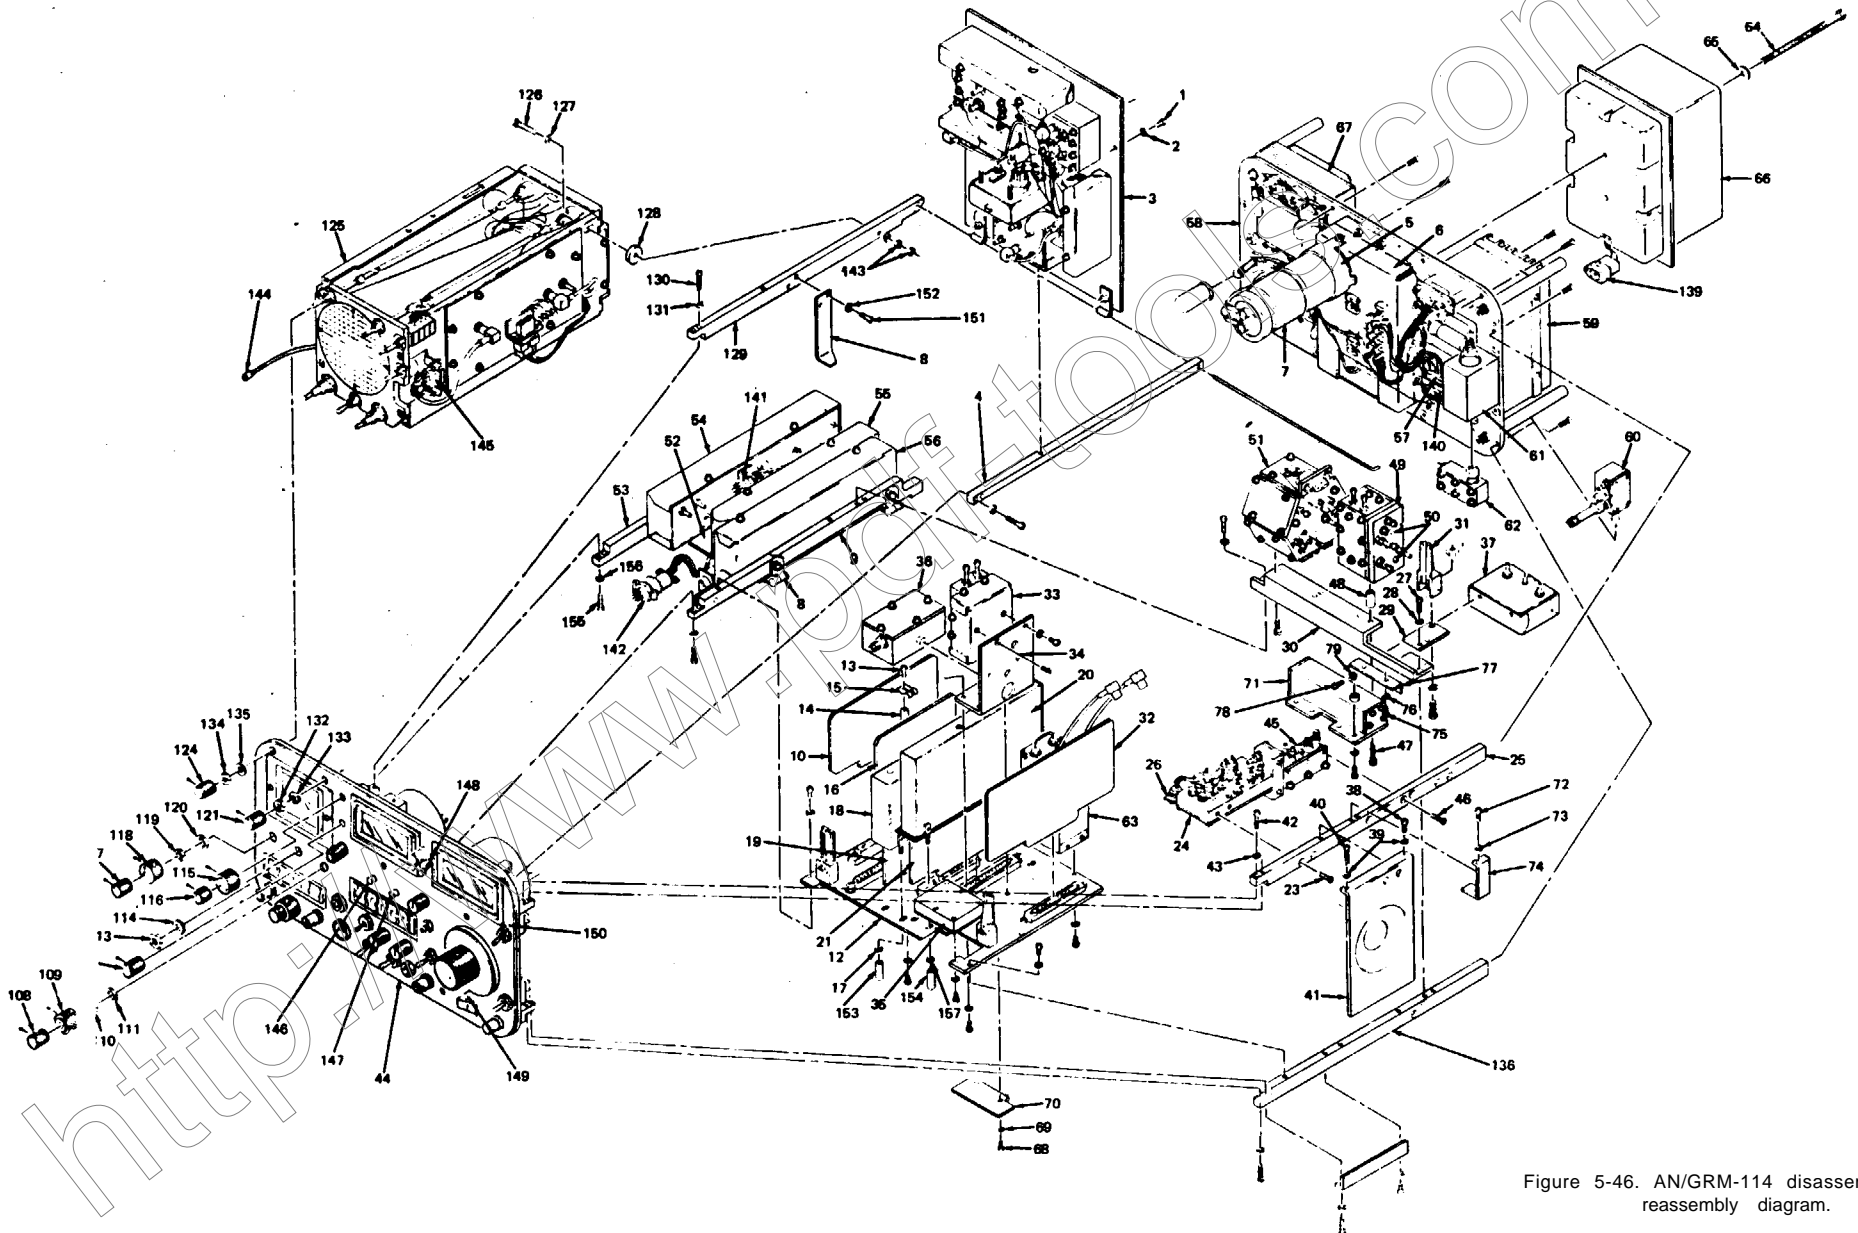
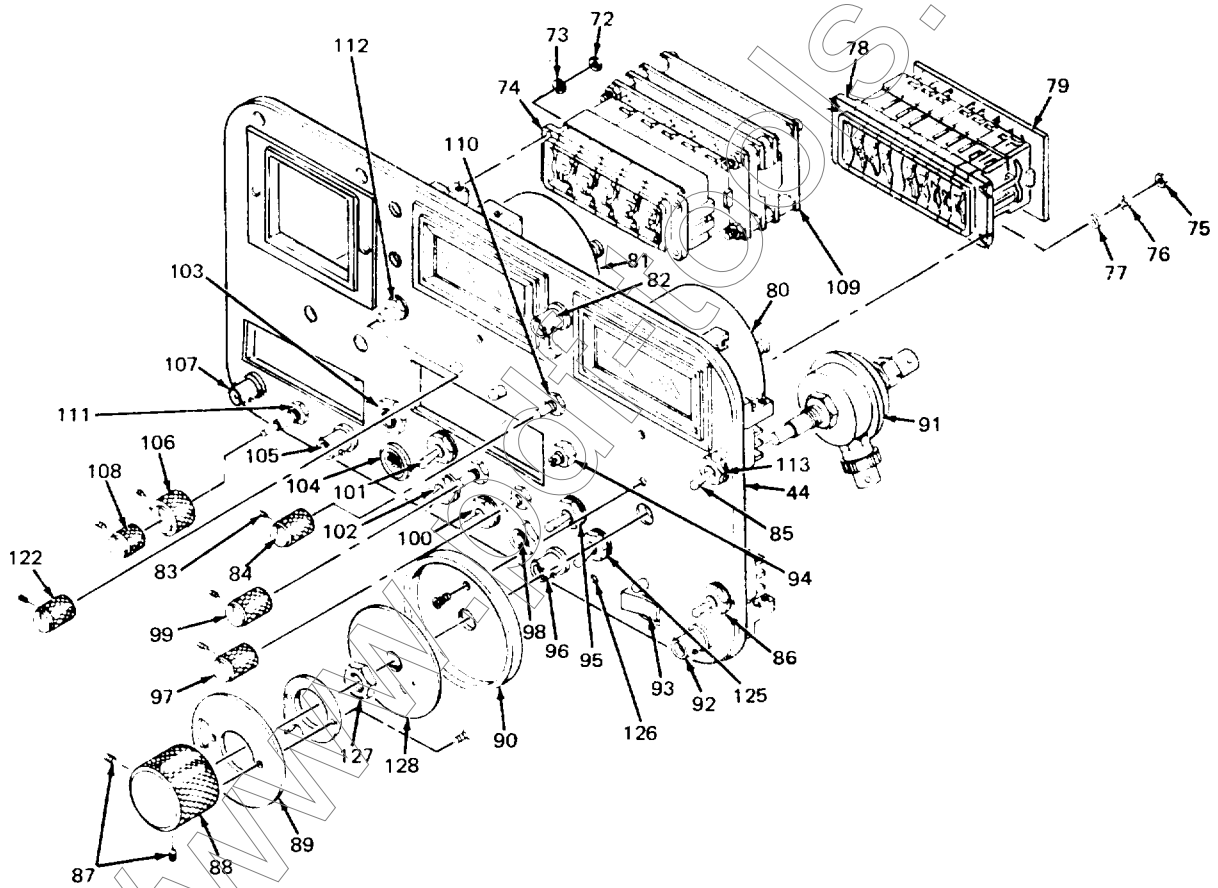

Figure 5-46. AN/GRM-114 disassembly reassembly diagram.
Figure 5-47. Front panel disassembly/reassembly diagram.
- (95) Install terminal lugs on rear of meter with two hex nuts.
- (96) Install Modulation Freq. Hz (Dual Tone Generator) switch assembly (74) to Front Panel (44). Install connector to bottom rear of PCB (109) (figure 5-47).
- (97) Attach four hex nuts (72) and four lockwashers (73) which hold switch mechanical assembly (74) to Front Panel (44) (figure 5-47).
- (98) Secure left-hand phase-lock lamp socket (146) to rear of Front Panel (44) (figure 5-46).
- (99) Solder tagged wires to lamp socket.
- (100) Secure lamp cover to Front Panel (44) (figure 5-46).
- (101) Secure right-hand phase-lock lamp socket (147) to rear of Front Panel (44) (figure 5-46).
- (102) Solder tagged wires to lamp socket.
- (103) Secure lamp cover to Front Panel (44) (figure 5-46).
- (104) Secure INPUT LEVEL lamp socket (148) to rear of Front Panel (44) (figure 5-46).
- (105) Solder tagged wires to lamp socket.
- (106) Secure lamp cover to Front Panel (44) (figure 5-46).
- (107) Secure Power ON lamp socket (149) to rear of Front Panel (44) (figure 5-46).
- (108) Solder tagged wires to lamp socket.
- (109) Secure lamp cover to Front Panel (44) (figure 5-46).
- (110) Secure 0 dBm lamp socket (150) to rear of Front Panel (44) (figure 5-46).
- (111) Solder tagged wires to lamp socket.
- (112) Secure lamp cover to Front Panel (44) (figure 5-46).
- (113) Attach coax cables to TRANS/RCVR connector (92), 10 MHz REF OUT connector (96), ANT INPUT connector (82), and SCOPE IN connector (107) (figure 5-47).
- (114) Attach one 1/2" Phillips screw (42) and one lockwasher (43) to secure frame support member (25) to Front Panel (44) (figure 5-46).
- (115) Attach Phillips screws and lockwashers which hold frame support members to Front Panel (44) (figure 5-46).
- (1) Install Spectrum Analyzer Assembly (125) to top left frame support member (129) and Front Panel (44) (figure 5-46).
- (2) Attach Spectrum Analyzer Assembly (125) to frame support member (129) with two hex nuts (143) and one lockwasher on one screw (126). Install connectors at (144) and (145) (figure 5-47).
- (3) Attach two screws (130), two lockwashers (131) that hold top left frame support member (129) to Front Panel (44). Tighten frame support member (129) to Front Panel (44) (figure 5-46).
- (4) Attach socket head screws with Allen wrench to INTENSITY control (124). Attach control (124), one hex nut (134), and one washer (135) (figure 5-46).
- (5) Attach socket head screws with Alien wrench to FOCUS control (121). Attach control (121) one hex nut (132) and one washer (133) (figure 5-46).
- (6) Attach socket head screws with Allen wrench to VERT control (115). Attach control (figure 5-46).
- (7) Attach socket head screws with Allen wrench to ANALY DISPR/OFF control (116). Attach control (116) (figure 5-46).
- (8) Install control (112) (figure 5-46).
- (9) Attach socket head screws with. Allen wrench to HORIZ control (112) (figure 5-46).